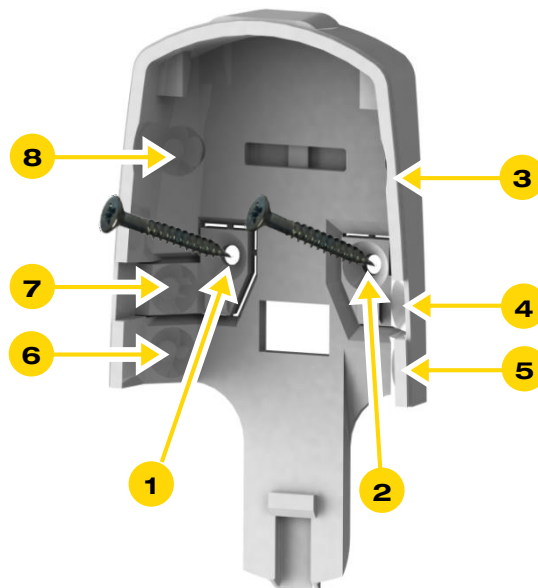

Figure 71: Motion Detector Wall-mounting Base with Screws
The mounting base is the Motion Detector back cover (also serving the purpose of batteries' cover), which should be disassembled from the Motion Detector, as demonstrated in Figure 70 below, and attached to the wall either by the double-sided tape (pre-attached to the base) or using screws as demonstrated in Figure 71 below.
- i. Use a flat screwdriver to remove the punch-outs 1 and 2 (see Figure 71 above).
- iv. Drill the holes; insert two (2) dowels if needed, place the base over them and screw in the two (2) screws.